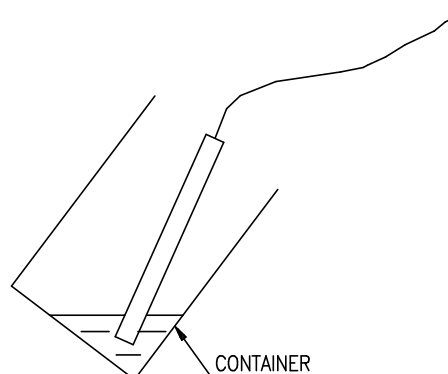

Fig. 7-5. Method of Solution Charging
- (5) Open up the sampling service valve.
- (6) When solution starts being sucked into the Absorption Machine, watch carefully to ensure that air does not leak in.
- (7) Before the container becomes empty, tilt it so that air does not enter the tube. (Fig. 7-5.)